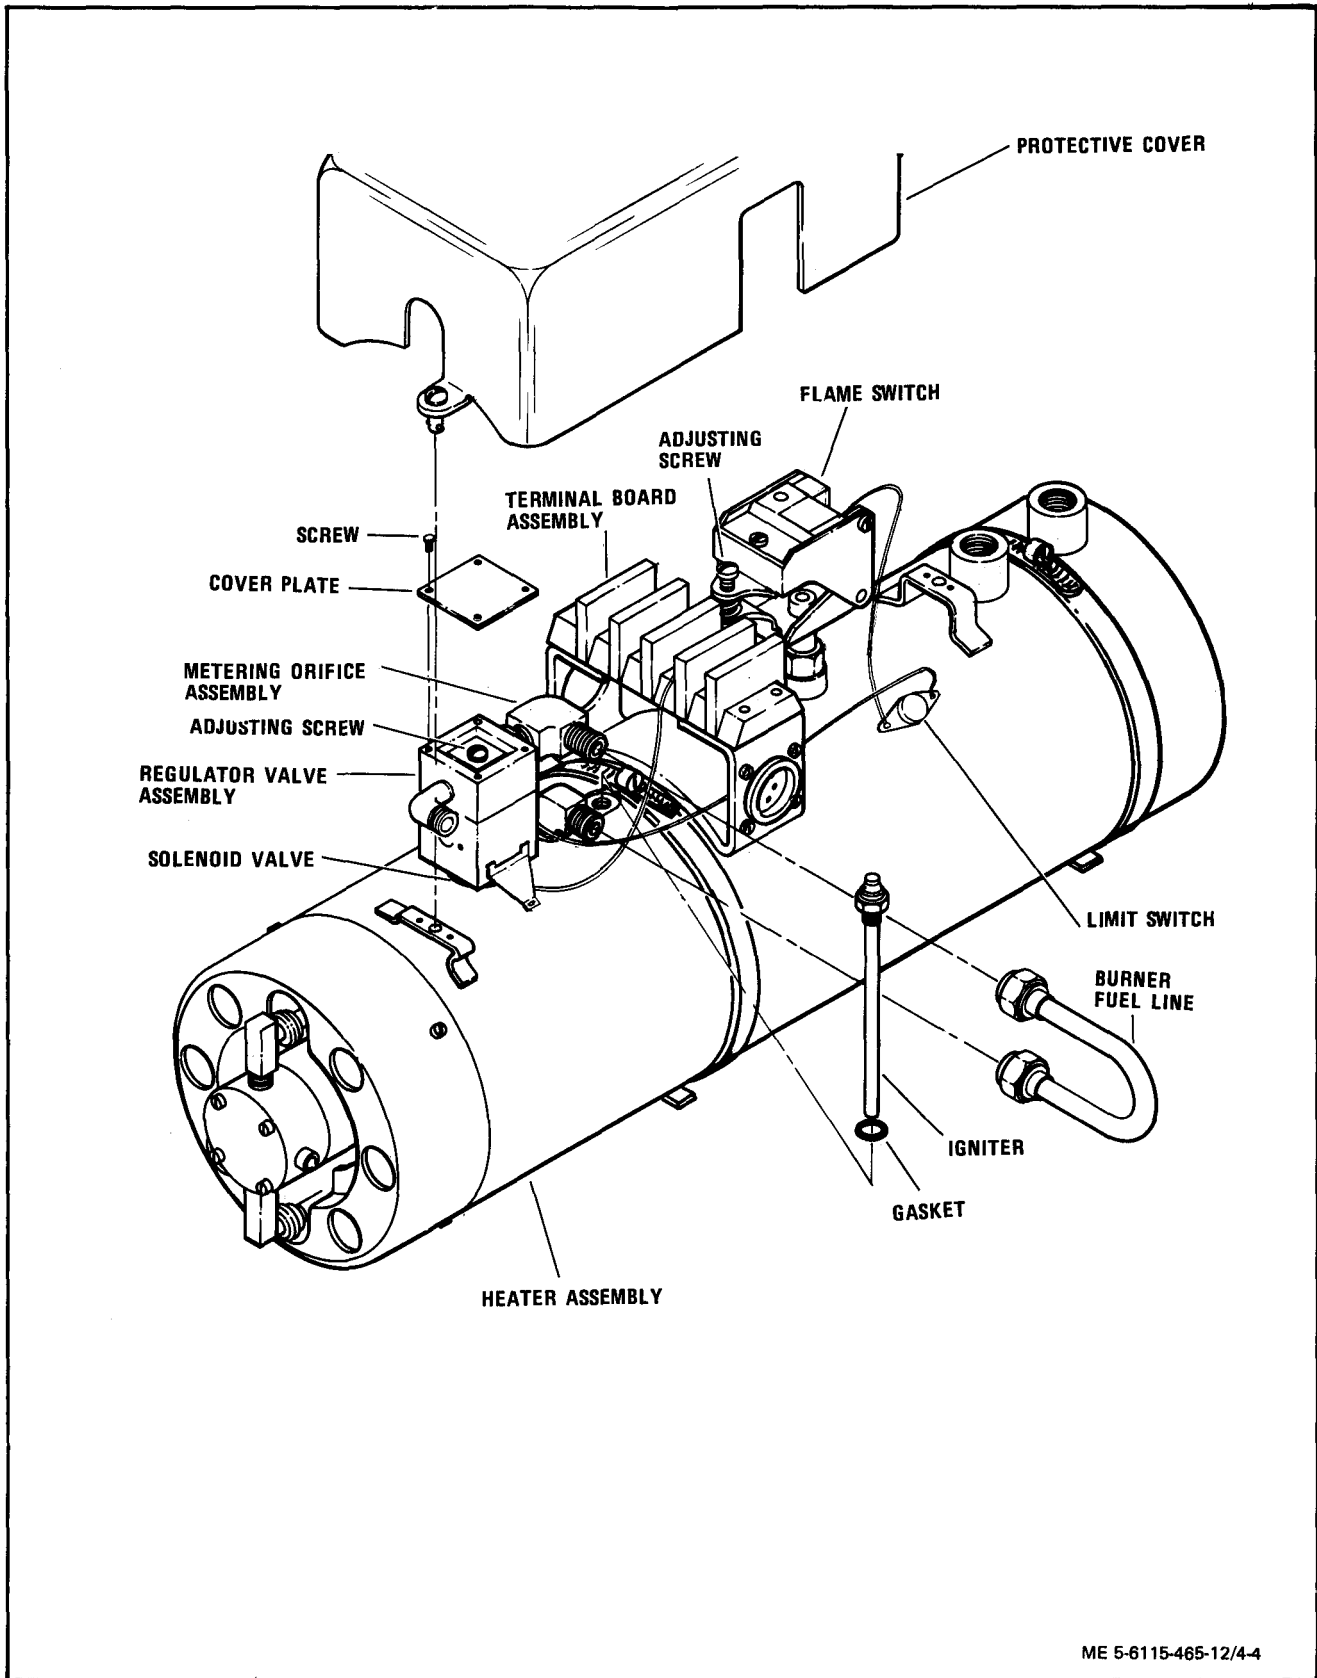

Figure 4-4. Fuel Burning Winterization Ht Heater Assembly Maintenance
(1) Service regulator valve assembly screen, sintered filter, and metering orifice assembly (paragraph 4-7b. above). Do not install turner fuel line or protective cover.
(2) Tag and disconnect electrical lead to igniter assembly (figure 4-4).
(3) Remove screws and cover plate to expose brass adjusting screw.
(4) Connect one end of burner fuel line onto metering orifice assembly and position the other end to drain into a graduated container.
(6) With fuel inlet line connected and fuel at the valve, place heater assembly into operation (paragraph 2-22).
(7) Using a stopwatch, time the fuel flow into graduated container. Flow should measure 1/2 pint in 10 to 12 minutes.
(8) If flow is not within specified limits, rotate adjusting screw (figure 4-4) to obtain proper flow rate.
(9) Stop heater assembly operation (paragraph 2-22).
(10) Install burner fuel line (figure 4-4).
(11) Install cover plate and secure with screws.
(12) Install igniter assembly electrical lead.
(13) Install heater assembly protective cover.
(14) Remove jumper wire from thermostat switch.
(1) Remove protective cover (figure 4-4).
(2) Using a suitable screwdriver, rotate flame switch adjusting screw counterclockwise until heater motor starts.
(3) Rotate adjusting screw clockwise until motor stops.
(4) Give adjusting screw an additional 1/2 (180 degrees) turn.
(5) Reinstall protective cover.
(a) Remove protective cover (figure 4-4).
(2) Visually inspect terminal board assembly for insecure mounting, loose electrical connections, stripped or otherwise damaged threads, cracks, corrosion, and burns or other damage.
(3) Install protective cover.
(2) Visually inspect limit switch for cracks, corrosion and evidence of shorting or other damage.
(3) Tag and disconnect electrical leads to switch.
(4) Using a multimeter or similar device, check switch for continuity.
(5) Reconnect electrical leads to switch.
(6) Install protective cover.